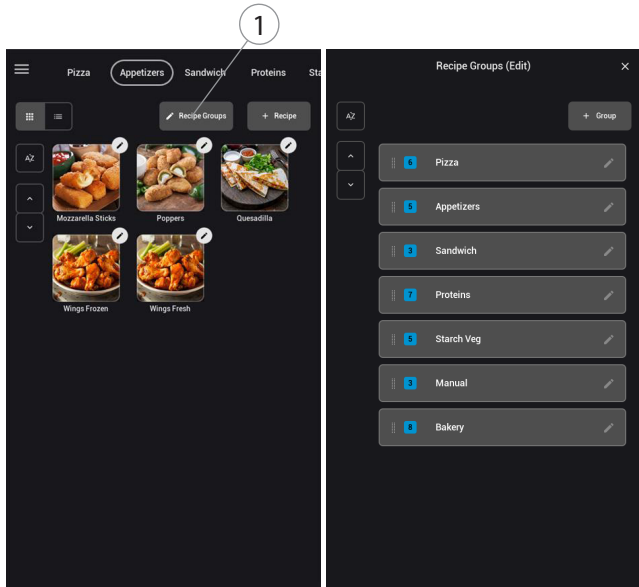

Figure 16: Edit Screen
1. Touch the Recipes Groups edit button (1) in the top-right corner of the screen (Figure 16, above).